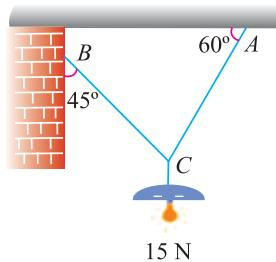

Fig. 5.27.
**Example 5.11.** An electric light fixture weighing 15 N hangs from a point C, by two strings AC and BC. The string AC is inclined at  $60^\circ$  to the horizontal and BC at  $45^\circ$  to the horizontal as shown in Fig. 5.27.